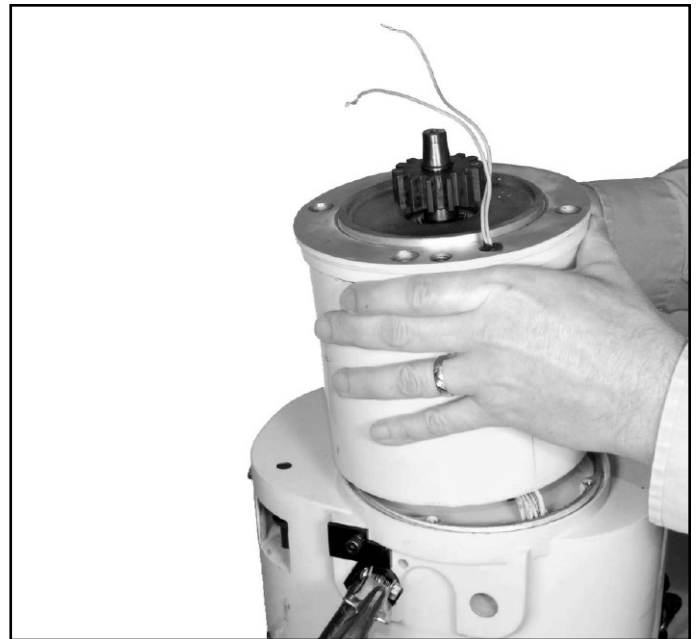

Figure 7-9. Removing Motor Assembly
- (1) Place hoist frame on wood blocks to protect intergral gear on motor shaft. Loosen four motor mounting bolts and lift motor assembly from frame (fig. 7-9). Guide motor leads through wire passage to avoid damage.